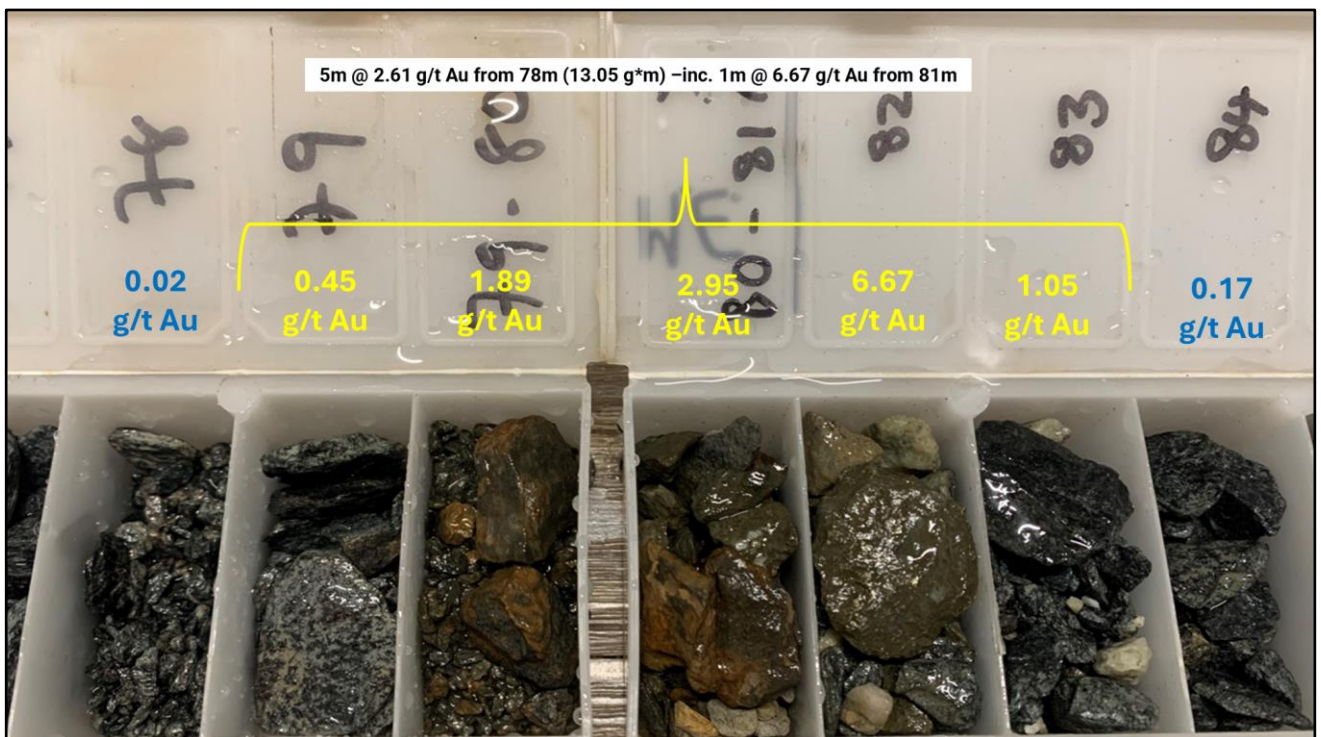

Figure 3: SRRC026 - Mineralised interval from 78m to 83m.
- SRRC026: 5 metres @ 2.61 g/t Au from 78m (13.05g*m) (See Figure 3)**